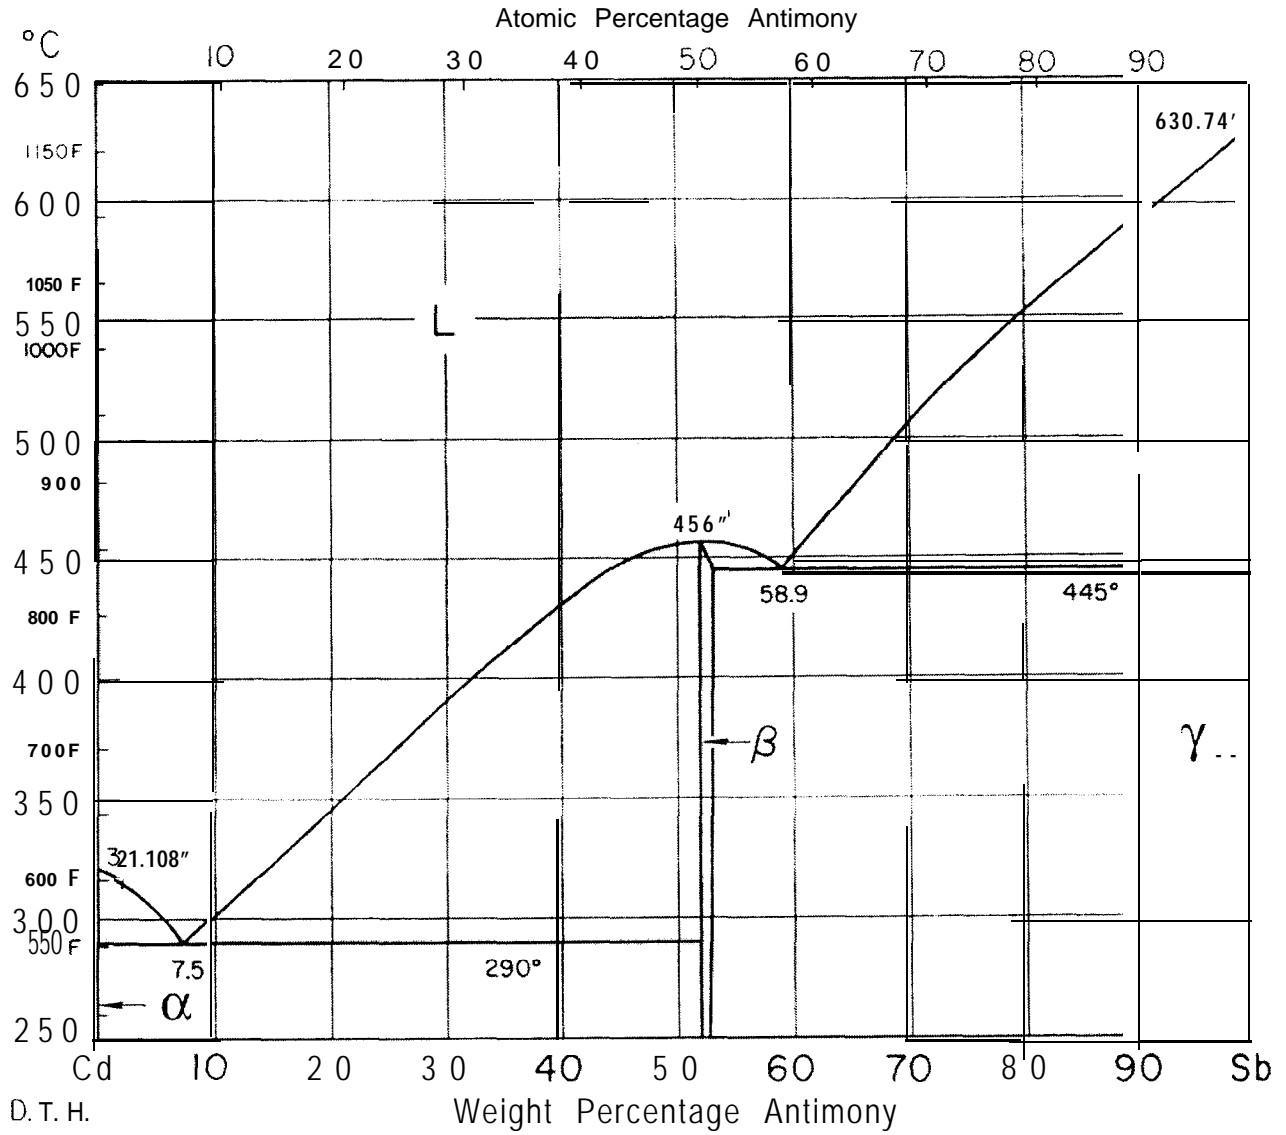

Figure 2. Phase diagram for Problem 2.
2. Refer to the attached cadmium-antimony (Cd-Sb) phase diagram (Figure 2) to answer the following questions.